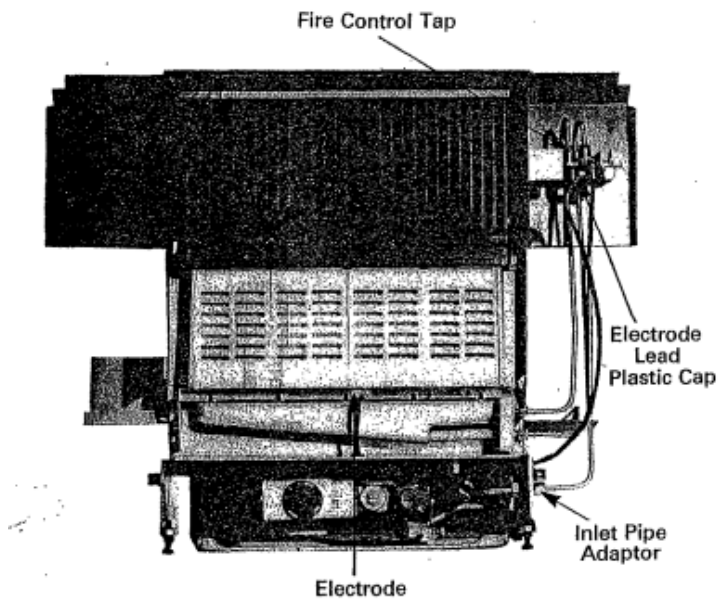

Fig. 11. The Controls
6. Remove the burner as follows: (Figs. 11 & 10).
To exchange the component: (Fig. 11)
On re-assembly ensure that the spark electrode lead is correctly fitted and that the black plastic cap is pushed on to the piezo unit and the glass fibre sleeve fits over the end of the electrode. (Fig. 11).
Remove the electrode from the burner. (Fig. 11).